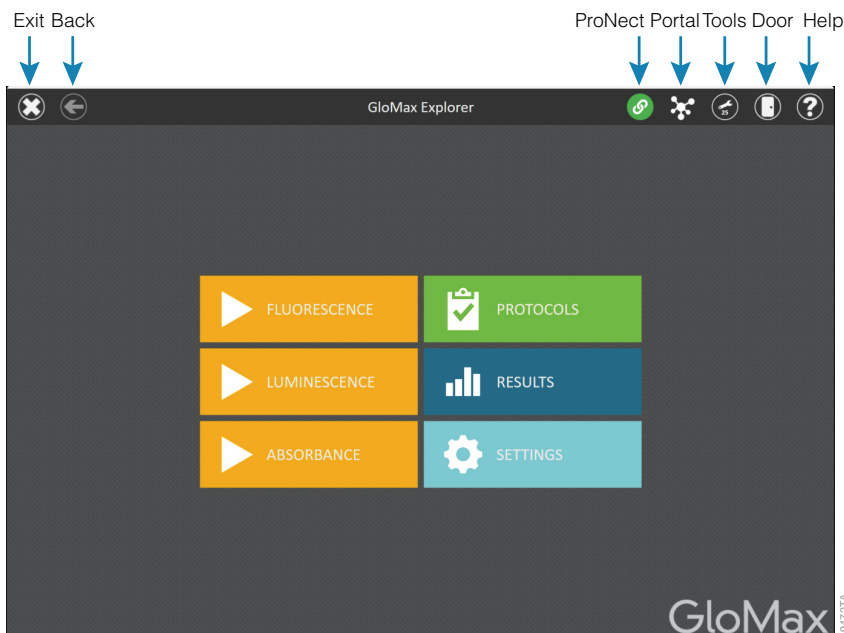
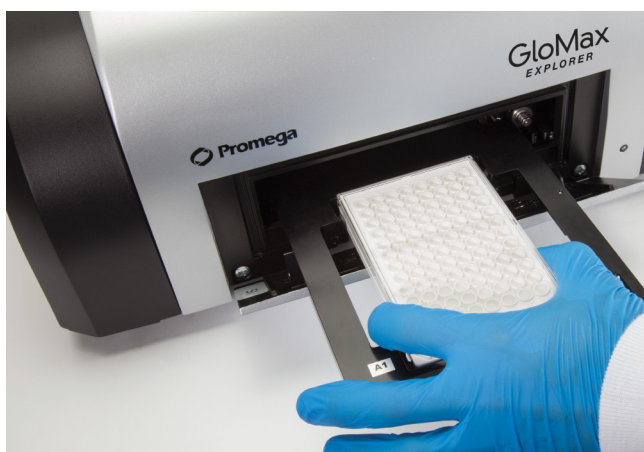

Figure 6. GloMax® Explorer software 'Home' screen.
Figure 7. Plate tray extended.
2. Shut down the GloMax® Explorer Software by tapping on the **x** in the upper left corner (Figure 6).
1. Open the Door of the instrument by tapping the **Door** icon on the top right corner of the screen (Figure 6). When the plate tray extends, add the plate such that well A1 of the plate corresponds to the label "A1" on the plate tray (Figure 7).